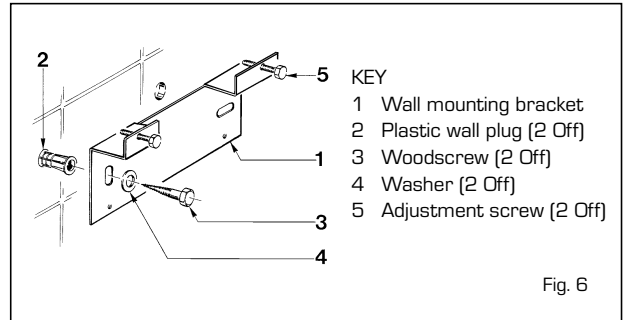

Fig. 6
- Secure the wall mounting bracket in position using the screws provided. Ensure that it is the correct way up, as indicated in fig. 6.